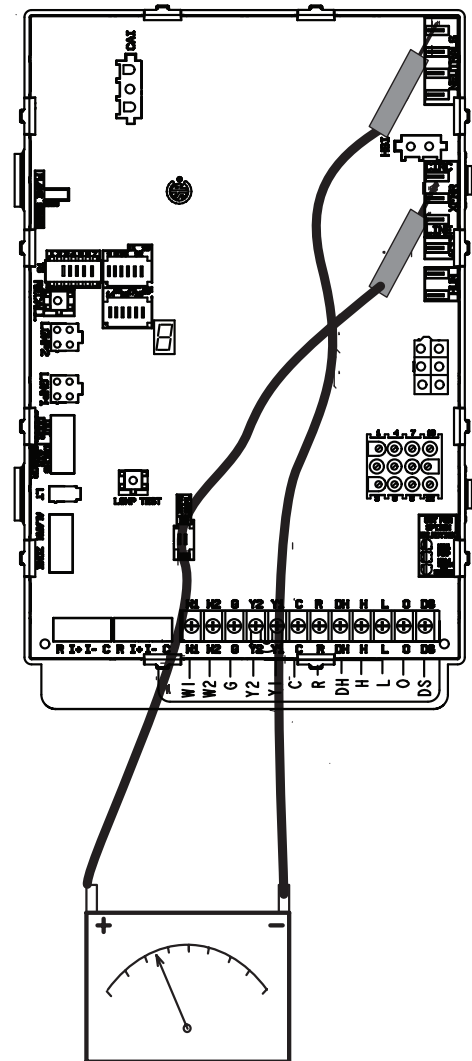

FIGURE 56
- 1 - Measure the AC voltage between Line Neutral (spade terminals) and "C" terminal (low voltage terminal block) on the integrated control. See FIGURE 56. A wide variation in the voltage between Line Neutral and "C" as a function of load indicates a poor or partial ground. Compare the readings to TABLE 41. If the readings exceed the maximum shown in the table, make repairs before operating the furnace.
- 2 - In addition, measure the AC voltage from Line Hot to Line Neutral (spade terminals) on the integrated control. See FIGURE 56. This voltage should be in the range of 97 to 132 Vac.